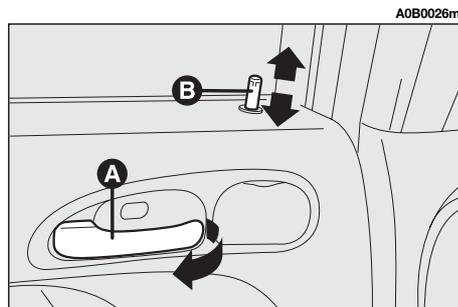

fig. 17
– To open the door pull handle (**A**-fig. 17).
By pressing the knob (**B-fig. 17**) on one of the rear doors only that particular door will be locked.